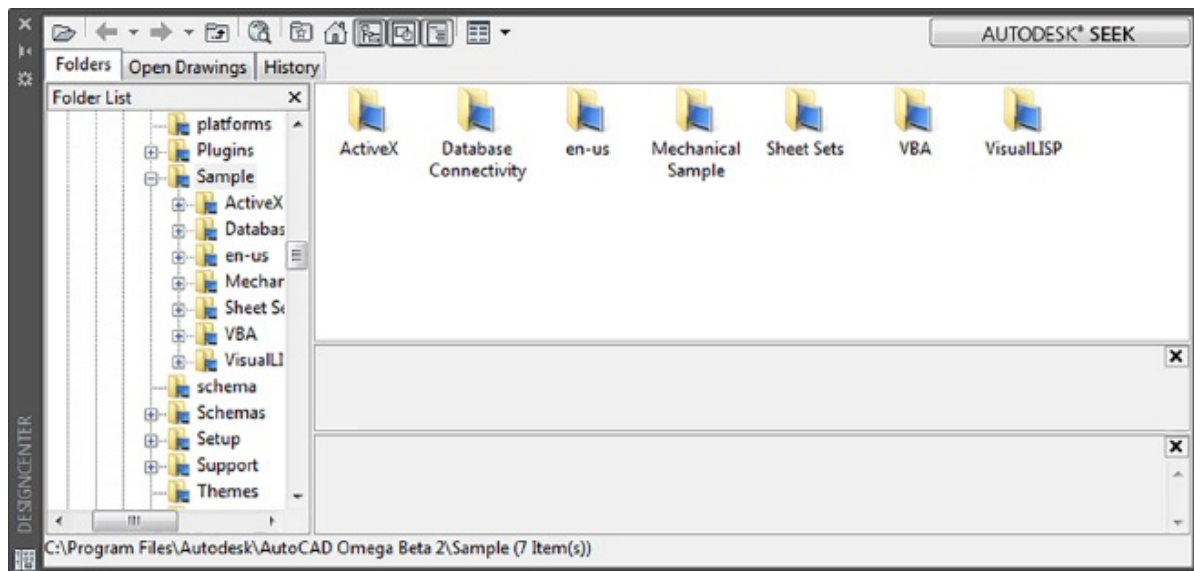

FIGURE 25.26 DesignCenter opens as a floating palette.
1. Open AutoCAD to a new file, and then click the DesignCenter tool in the View tab's Palettes panel. Design Center opens as a floating palette (see Figure 25.26).
If your DesignCenter view doesn't look like Figure 25.26, with the DesignCenter window divided into two parts, click the Tree View Toggle tool on the DesignCenter toolbar. The Tree view opens on the left side of the DesignCenter window. Click the Home tool to display the contents of the C:\Program Files\Autodesk\AutoCAD 2018\Sample\DesignCenter folder.